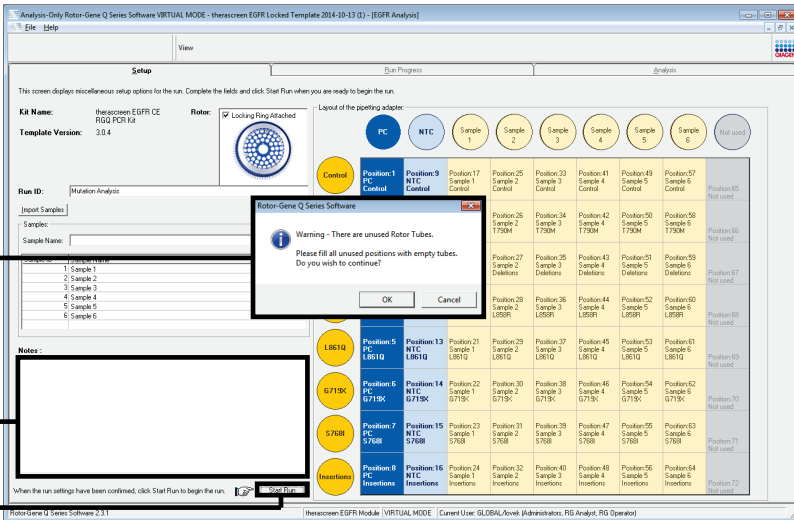

Figure 14. “Notes” dialog field (1), the “Start Run” button (2) and “Warning” of unused rotor positions (3).
16. When all sample names are entered, verify that they are correct. Add any additional information in the **Notes** field if necessary, then click **Start Run** (Figure 14).
**Note:** If any rotor position is unused, a “Warning” will appear (Figure 14) to remind the user that all unused positions on the rotor must be filled with capped, empty tubes. Check that all unused rotor positions are filled with capped, empty tubes and click **OK** to proceed.